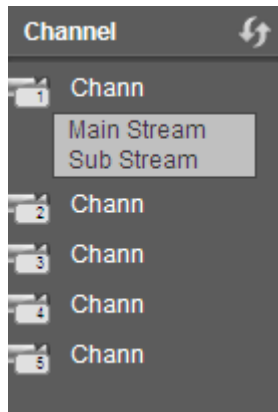

Figure 5-8
- Please refer to Figure 5-8 for main stream and extra stream switch information.